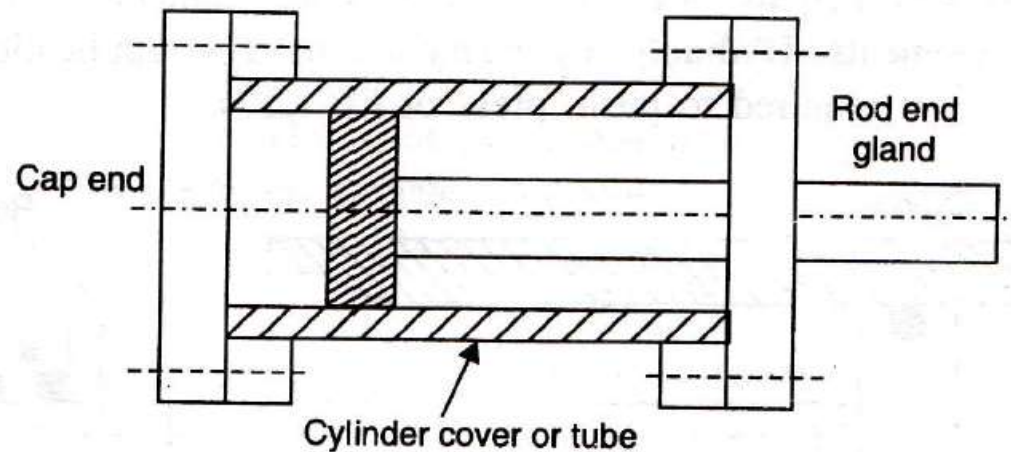

Figure 4.3 Bolted constructions on both the ends.
- (i) Bolted design (Figure 4.3)